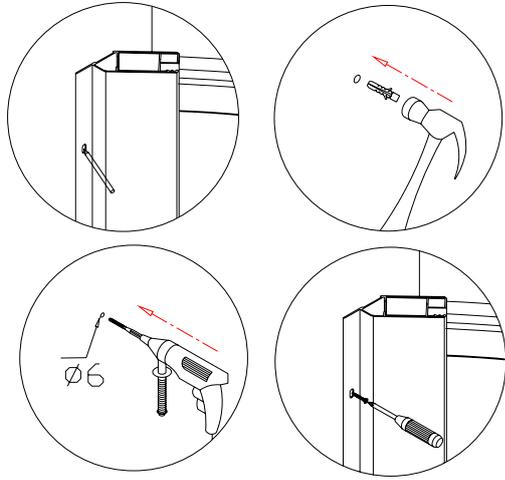
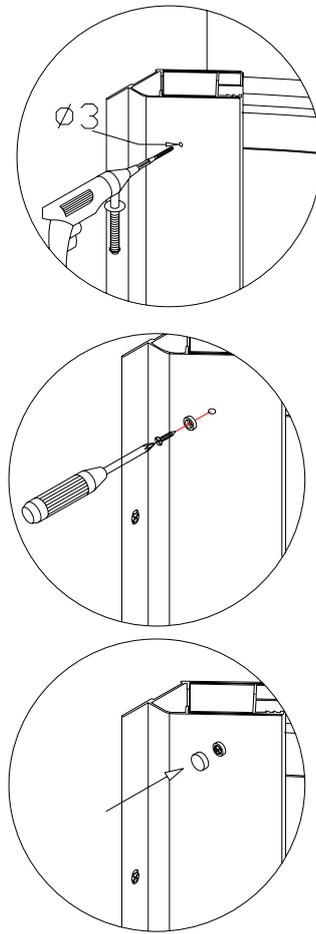

Fig 7
Fig 8
6. Now adjust one of Wall profiles vertically using level and mark holes on the wall. Using help to hold this profile in the right position, level another profile and mark holes. Gently move the assembled unit on the side, drill holes into the wall, insert anchors (15) (fig 7).
7. Place the whole shower assembly on the tray and attach it to the wall using ST4.2x30 screws (10).
8. Do final check and adjustment of the shower assemble position on the tray. Now drill small holes in the Wall and Glass profiles and connect it together using ST4.2x10 round head screw (12) (fig 8) and Screw covers (14). (**Do not use a power screwdriver**)